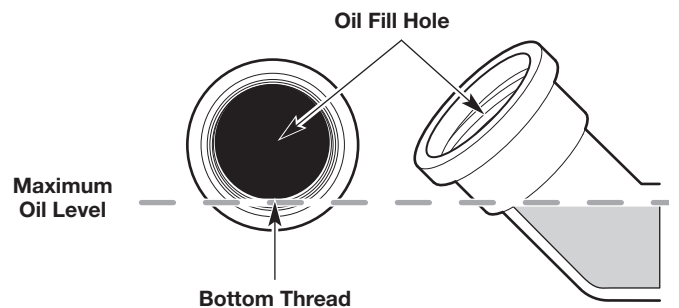

Fig. 34
5. Look into the oil fill hole; use a flashlight if necessary. **The oil level should just touch the bottom thread of the oil fill hole** (Fig. 34).